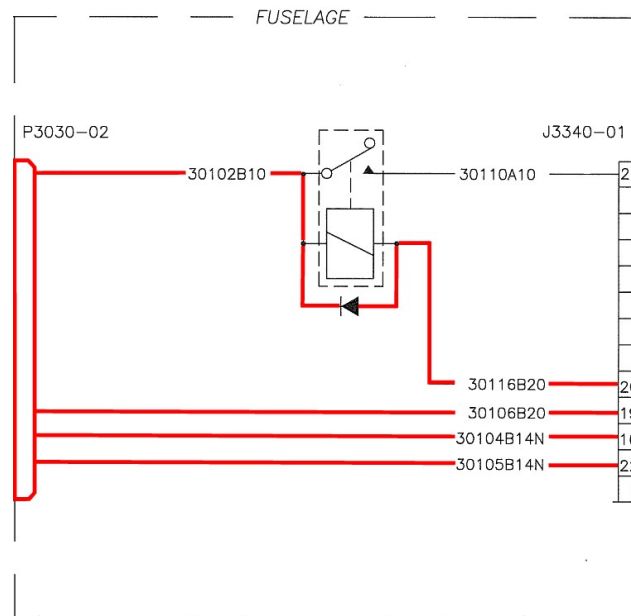

Figure 22: Fuselage Schematic highlighting the Instrument Panel Connection
- 12.2.1 Follow the instructions below to assemble the wire connection for the fuselage to the instrument panel, as shown in Figure 22.